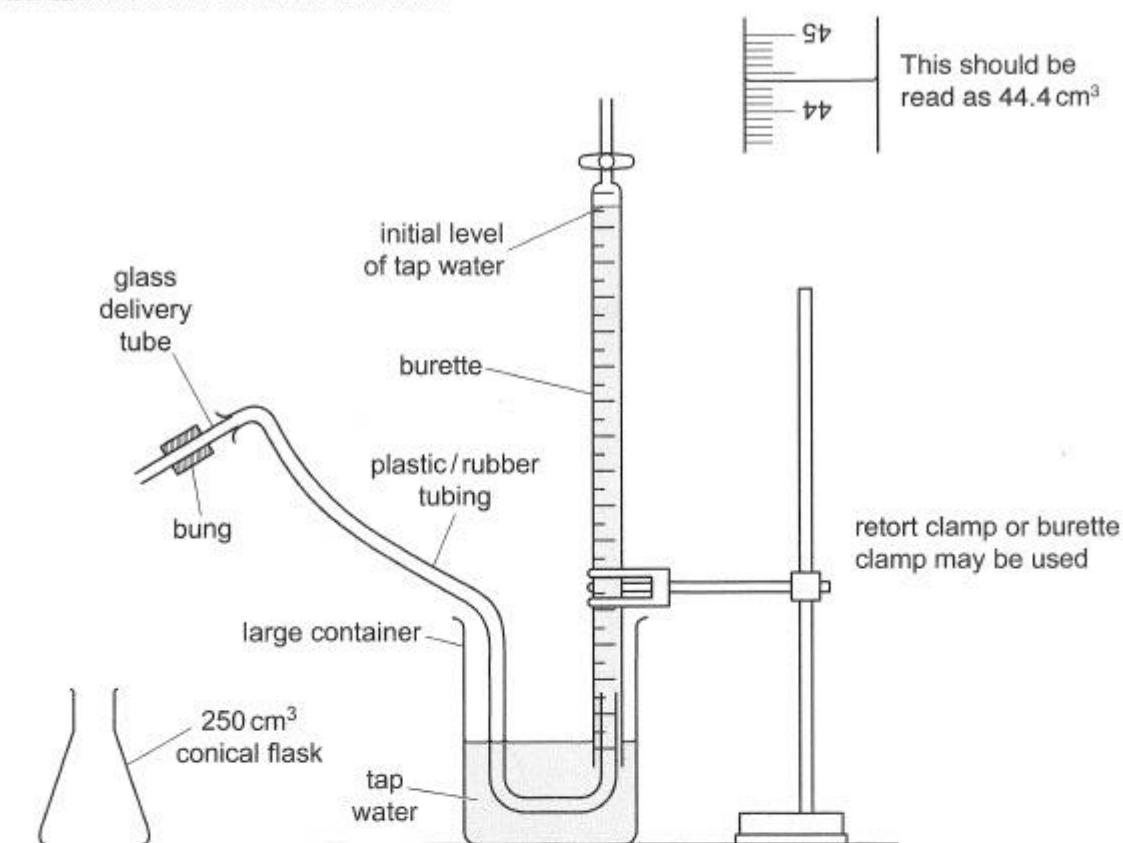

Fig. 2.1
In this experiment you will follow the reaction between calcium carbonate (in the form of calcium carbonate tablets) and hydrochloric acid of two different concentrations. The apparatus used to follow this reaction is shown in Fig. 2.1. The equation for the reaction is shown.
1. Set up the apparatus as shown in Fig. 2.1 as follows: